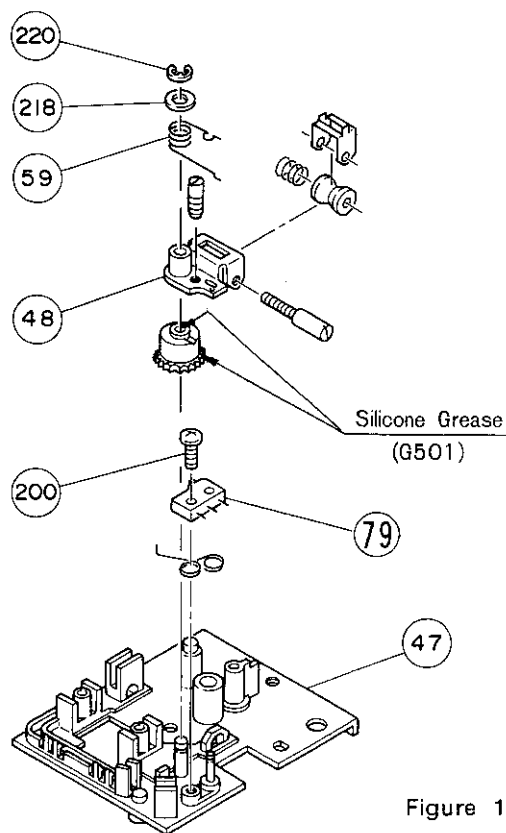

Figure 10
1. Remove the E type Washer (220) 2φ on Plate Assy (47).
2. Remove the Washer (218) and Spring (59).
3. Remove the Lift angle Assy (48).
4. Remove the Screw (200) (Fig. 10).